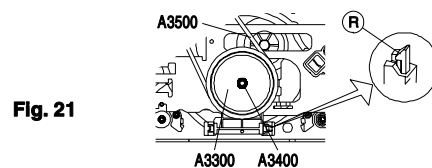

Fig. 21
- Remove the drive belt (Pos. A3500, Fig. 21).
- Remove the retaining washer (Pos. A3400, Fig. 21).
- Undo the clamp (R) (Fig. 21) and take the pulley (Pos. A3300) out.